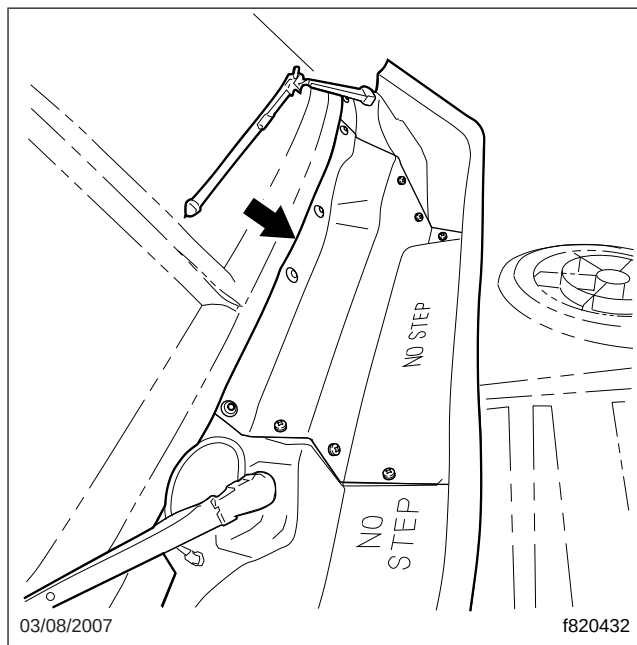

Fig. 1, Rain Tray, Center Section
3. Remove the center section of the rain tray by removing the fasteners that attach it to the windshield support and to the left-side and right-side sections of the rain tray; see Fig. 1.